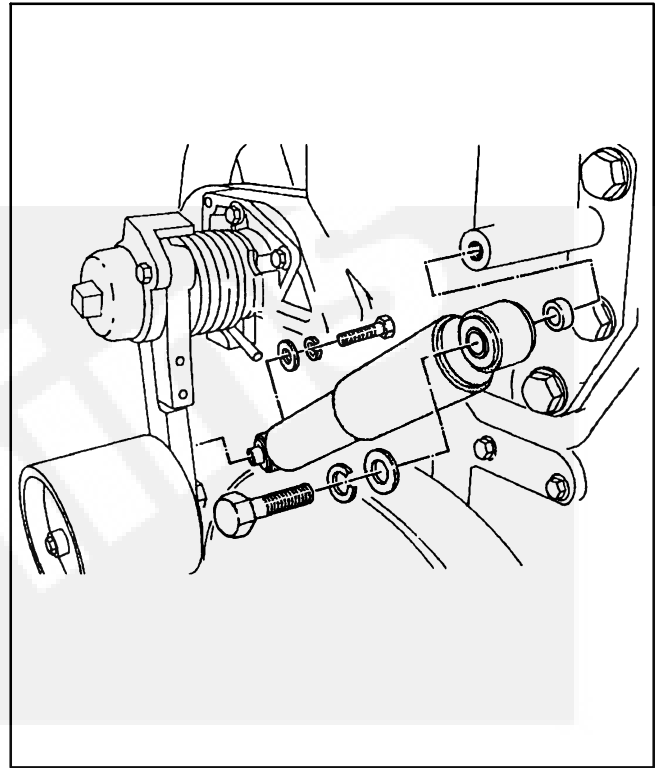

FIGURE 7-3. REMOVING SHOCK ABSORBER
2. Loosen the two capscrews on both ends of shock absorber and remove all disconnected hardware (Figure 7-3).